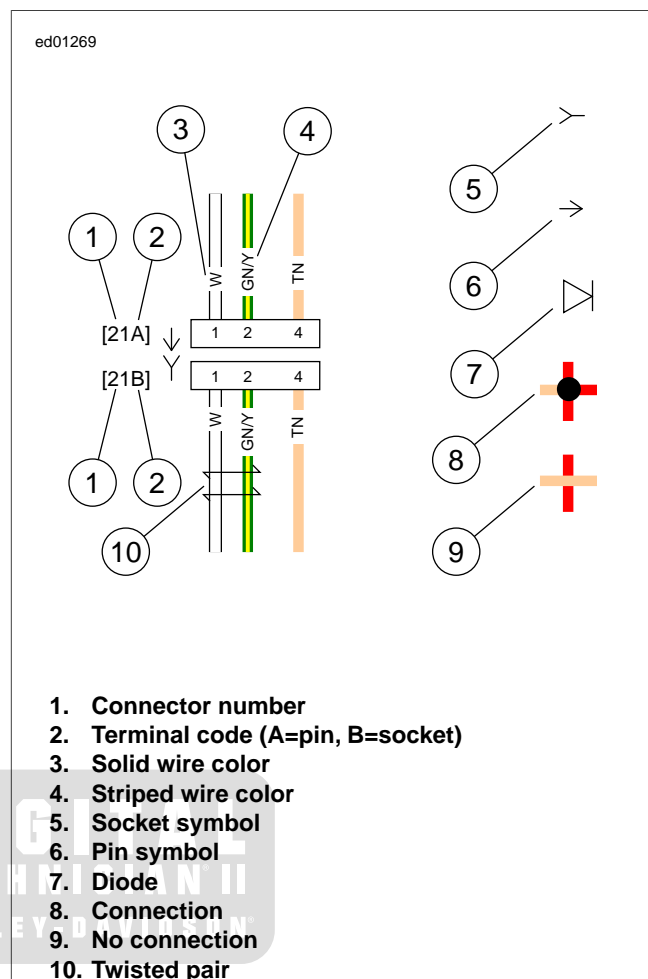

Figure B-1. Connector/Wiring Diagram Symbols (typical)
For Solid Color Wires: See Figure B-1. The alpha code identifies wire color (3).
See Figure B-1. On wiring diagrams and in service/repair instructions, connectors are identified by a number in brackets (1). The letter (2) inside the brackets identifies whether the housing is a socket or pin housing.